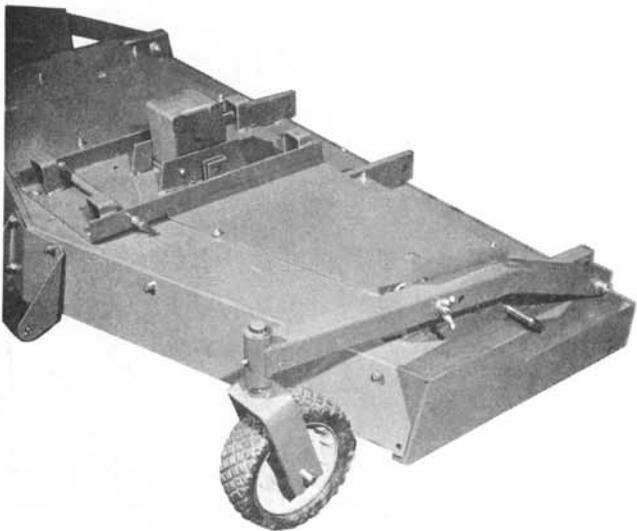

fig 8
9. Install the caster wheel assembly on the support and secure with washer (item 70) and cotter pin (item 57). See fig 8.
10. Fasten front of support with adjustment bolt, (item 88) lock washer (item 71) and wing nut (item 69). See fig 8.